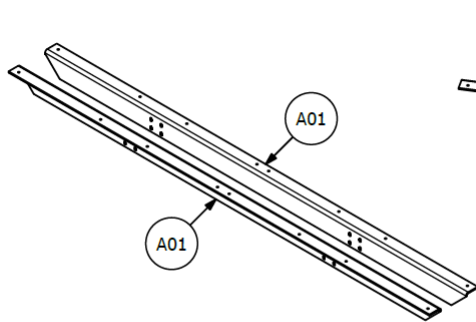
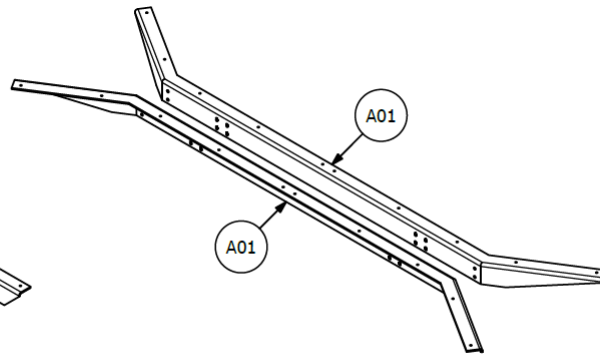

FIG. 01: TABLE RAIL PAIR, STRAIGHT
FIG. 02: TABLE RAIL PAIR, ANGLED
1. Layout Table Rails (A01) side-by-side to create a pair. See Figure 01 for straight rail tables and Figure 02 for angled rail tables used with Power Drawer option.